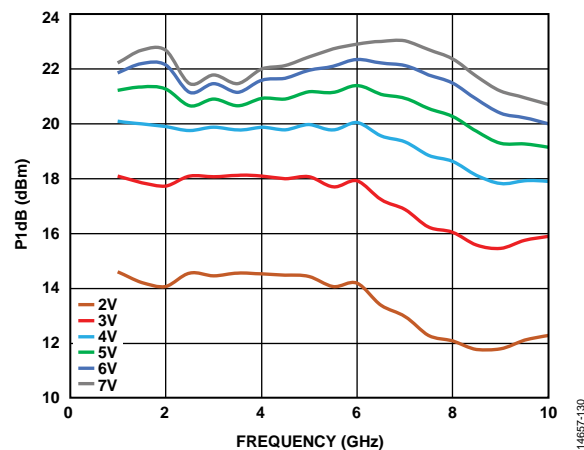
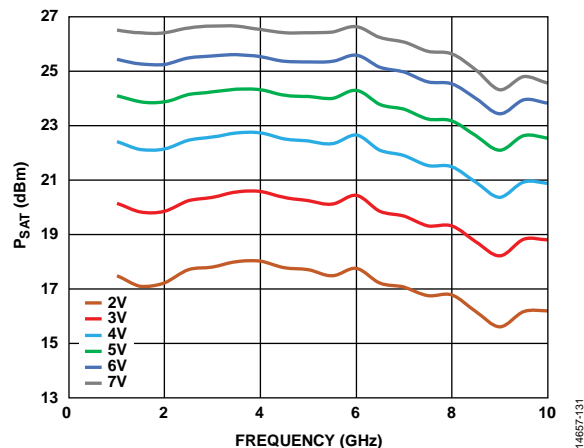

Figure 31. P1dB vs. Frequency for Various Supply Voltages,  $I_{DQ} = 65$  mA
Figure 32.  $P_{SAT}$  vs. Frequency for Various Supply Voltages,  $I_{DQ} = 65$  mA
Figure 19, Figure 31, and Figure 32 show that increasing the voltage from 2 V to 7 V typically increases  $P_{1dB}$  and  $P_{SAT}$  at the expense of power consumption with minor degradation on noise figure (NF).